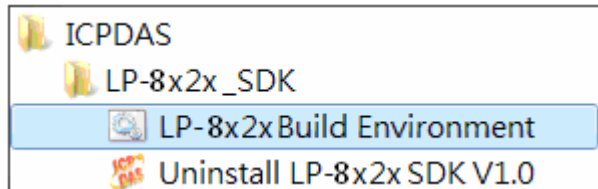

Fig. 2-23
- ❑ Double-click the shortcut icon for the “LP-8x21 Build Environment” (Refer to Fig. 2-23).